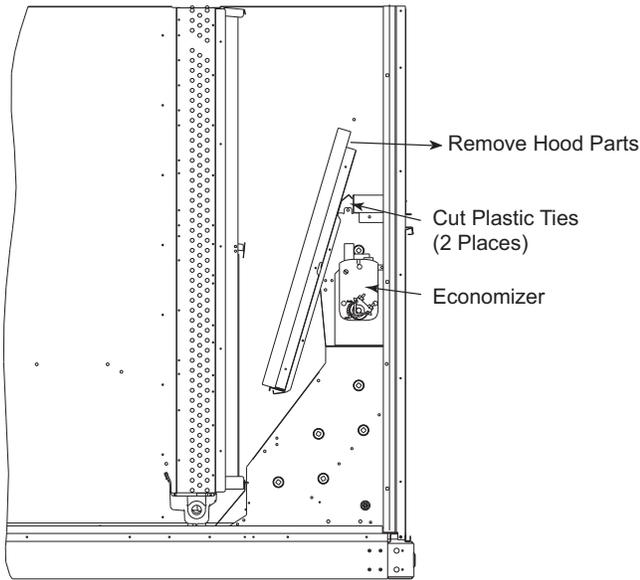

Fig. 16 – Economizer Hood Package Location
2. Locate and cut the 2 plastic tie-wraps, being careful to not damage any wiring. (See Fig. 16.)